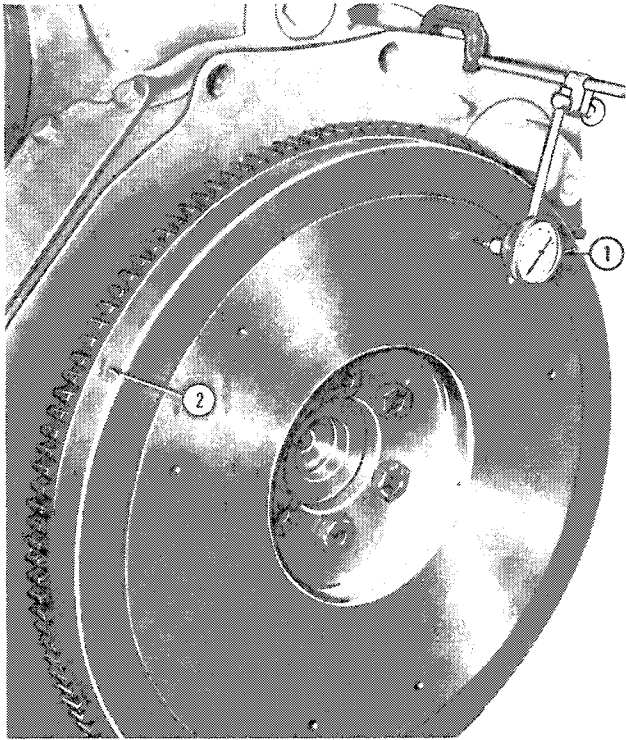

Figure 57
3. Prior to removal, rotate the flywheel and use a dial indicator to measure the run-out, Figure 57, see "Specifications" — Chapter 3. If the flywheel is outside the specification check the mating surfaces of the flywheel and the crankshaft for correct seating.